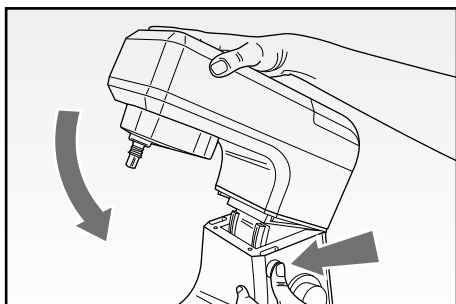

Fig. 7
- With the arm (A) raised, pour the ingredients into the bowl (H).
- Lower the lever (B) once more and, at the same time, the arm (A), Fig. 7).
- Plug in appliance and switch the appliance on by rotating the dial (C) to speed "1". Increase speed according to need or to specific recipe. The appliance is also equipped with pulse mode by rotating dial (C) counter-clockwise to position "P". For best results, keep pressed for a very short period (2/3 seconds).
- For smoother results, switch appliance off, disconnect plug from mains outlet and raise the arm (A) as described above. Bring food stuck on the sides of the bowl (H) towards the centre by means of an appropriate spatula.
- At the end of processing, or to change the type of whisk, switch off the appliance by turning the dial (C) to "0" and unplugging it from the power socket; lift the arm (A) as described above and remove the whisk by pulling it out with care, after having released it by turning it clockwise.
- Remove the bowl (H) by rotating it counter-clockwise.